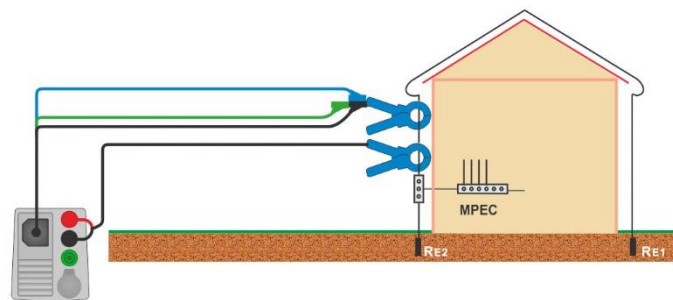

Figure 7.94: Contactless earthing resistance measurement
- ▶ Clamp on object under test, see *Figure 7.94*.